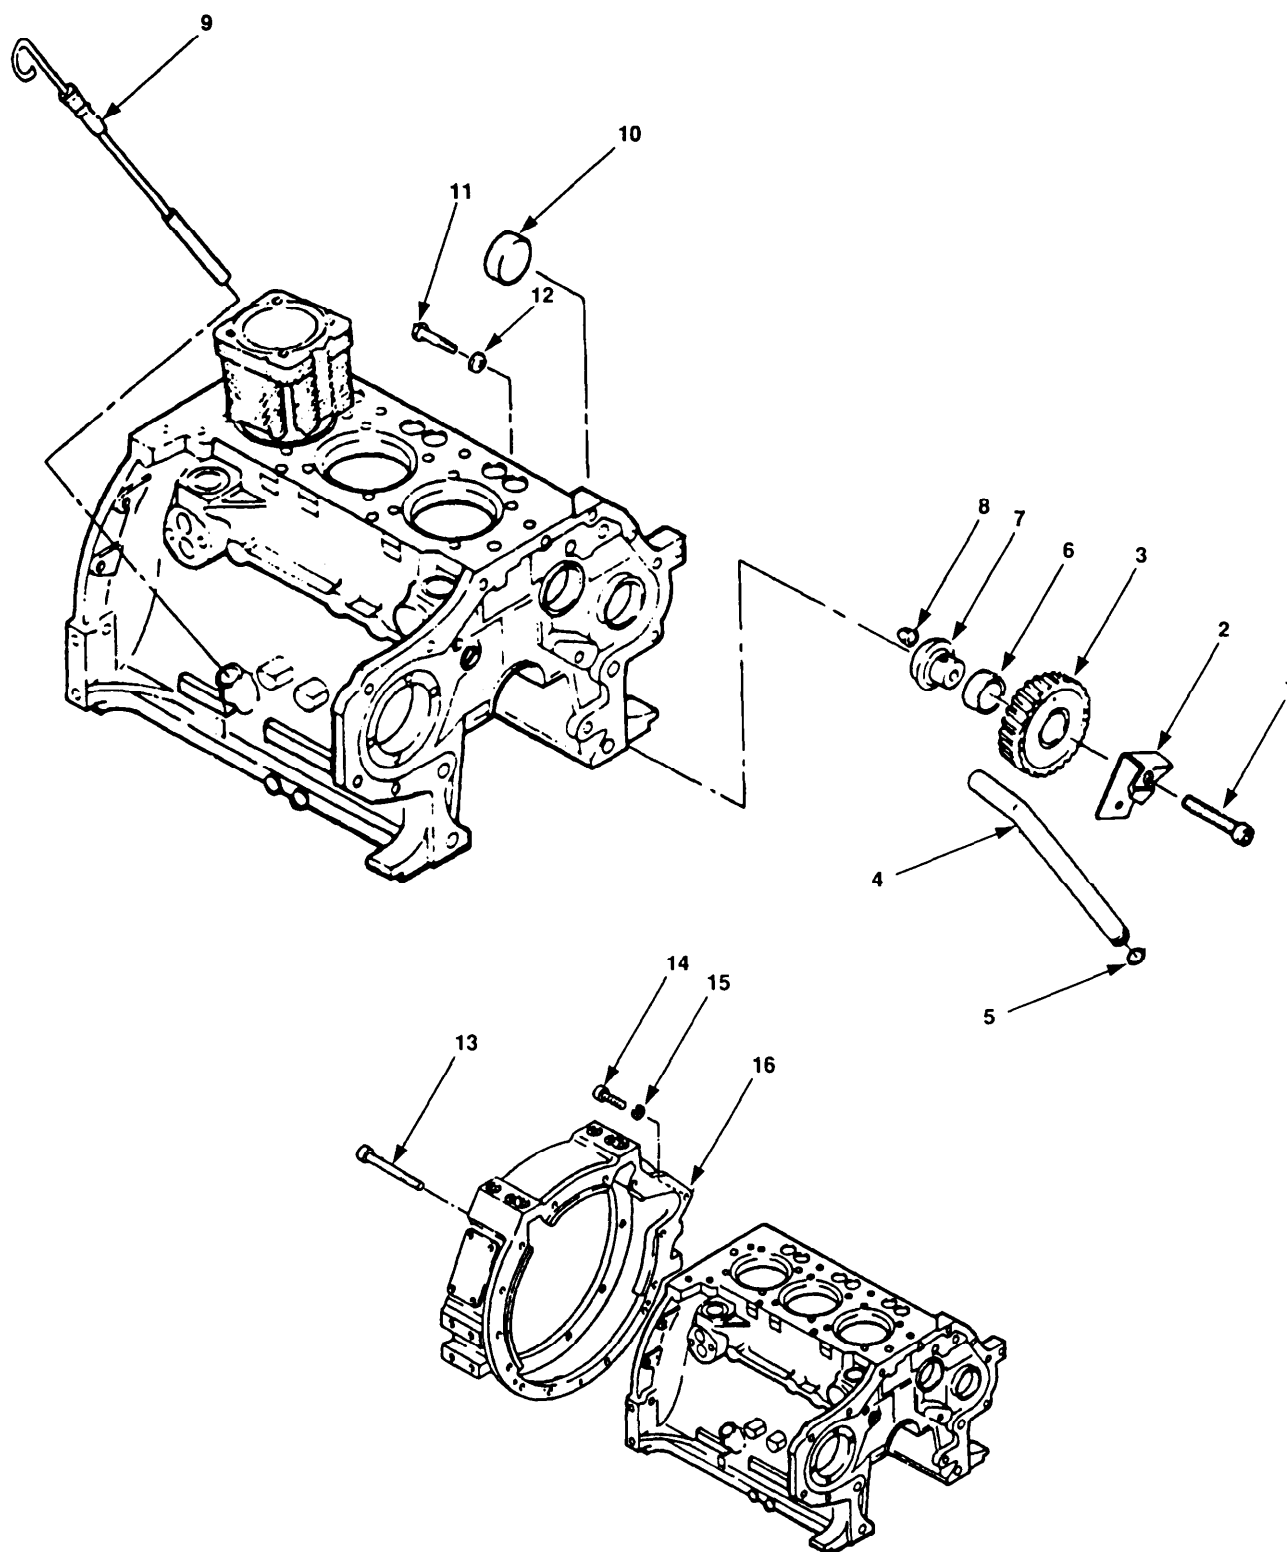

Figure 6-8. Idler Gear and Housing Adapter Removal.
- (1) Remove breather pipe (23) and bracket (24).
- (2) Remove two nuts (25), washers (26), and bolts (27).
- (3) Remove suction pipe (28).
- (4) Remove two bolts (29), washers (30), shield (31), and oil pump (32).
- (5) Remove two screws (33), washers (34), and brackets (35) .
- f. Remove cap screw (figure 6-8, 1) bracket (2) and idler gear (3).
- g. Remove tube (4) and seal (5) from bracket (2).
- h. Remove bushing (6) from idler gear (3).
- i. Remove journal (7) and bushing (8).
- j. Remove dip stick (9).
- k. Remove cover (10), screw (11) and sealing ring (12).
- l. Remove three long bolts (13), eleven short bolts (14), lockwashers (15), and one housing adapter (16) .